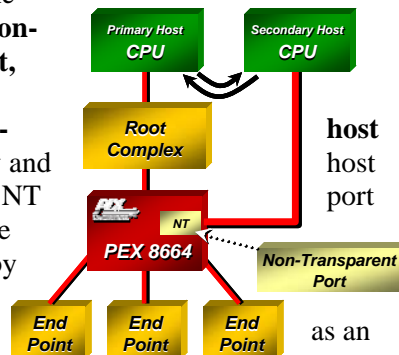

Figure 3. Non-Transparent Port
In Single-Host mode, the PEX 8664 supports a **Non-Transparent (NT) Port**, which enables the implementation of **dual-systems** for redundancy and failover capability. The NT allows systems to isolate host memory domains by presenting the processor subsystem endpoint rather than another memory system. Base address registers are used to translate addresses; doorbell registers are used to send interrupts between the address domains; and scratchpad registers (accessible by both CPUs) allow inter-processor communication (Figure 3).
Base address registers are used to translate addresses; doorbell registers are used to send interrupts between the address domains; and scratchpad registers (accessible by both CPUs) allow inter-processor communication (Figure 3).